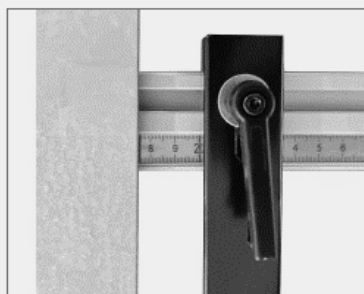
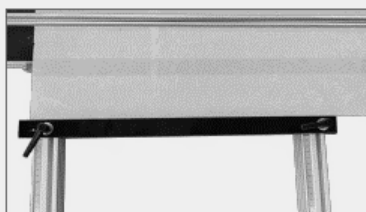

Figure 3
Figure 4
2. Install the ruler. Fix it on the edge (as shown in Figure 3). Note that the positions on both sides of the ruler should be aligned in order to close the tile (Figure 4).